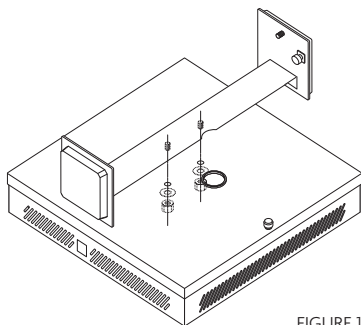

FIGURE 1
1. Connect the two X-WAV antennas to the antenna mount. Position the antennas so the N connectors are above the antenna mount (Figure 1).